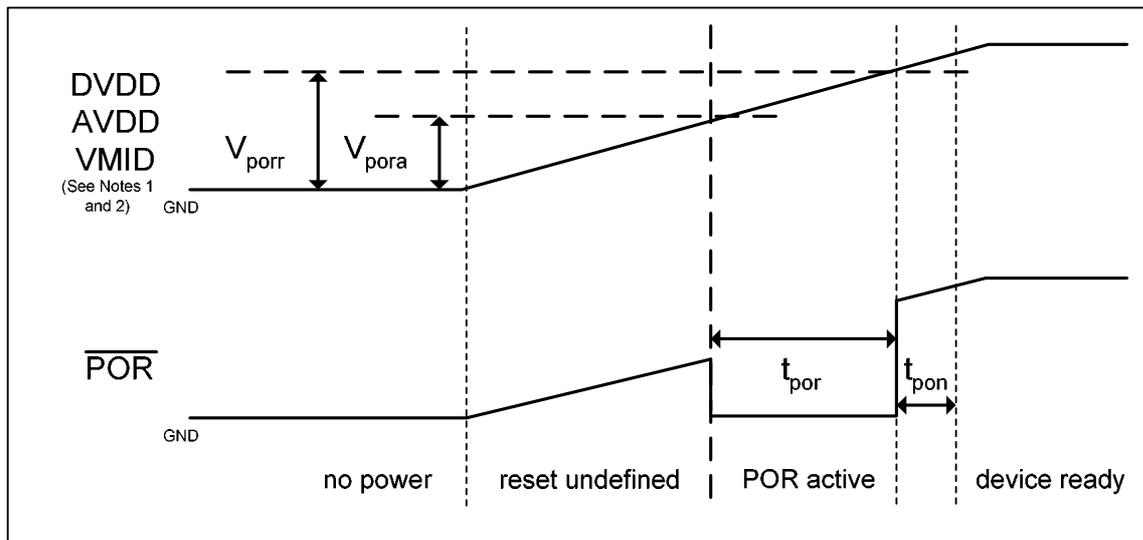

Figure 10 Power Supply Timing Requirements – power-on
- POR is activated when DVDD or AVDD or VMID reach their stated Vpora level (Figure 10).
- POR is only released when DVDD and AVDD and VMID have all reached their stated Vporr levels (Figure 10).